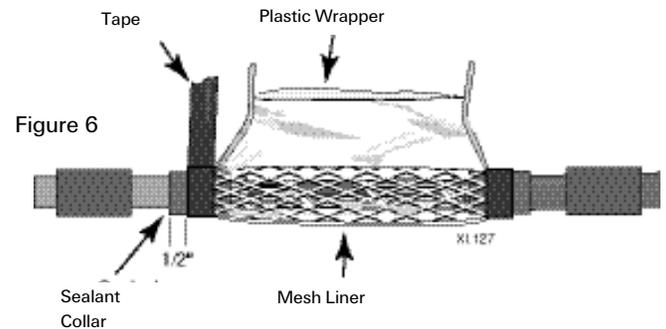

Figure 6
9. Leaving 1/2" of sealant collar exposed, secure the wrapper with two laps of tightly wrapped vinyl tape. Repeat Steps 8 and 9 for the other end of the splice opening. (Figure 6)